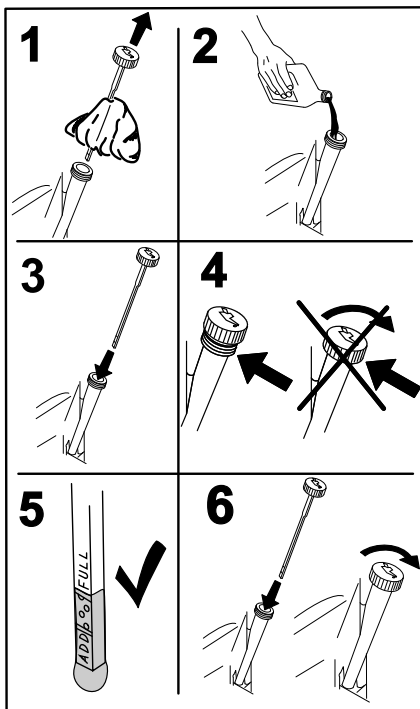

Figure 46
4. Slowly pour approximately 80% of the specified oil into the filler tube and slowly add the additional oil to bring it to the **Full** mark (Figure 46).